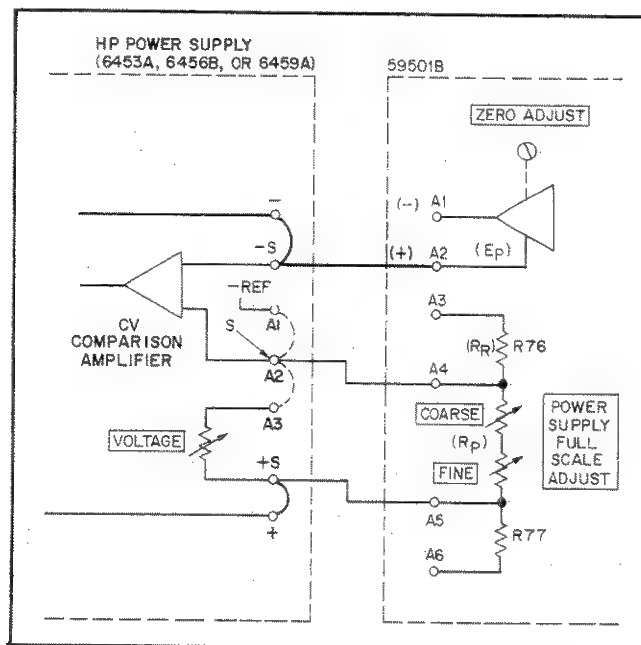

Figure 3-11. CV Programming Connections for HP Power Supply Models 6453A, 6456B, and 6459A
- b. Connect 59501B to BPS/A as shown in Figure 3-11.